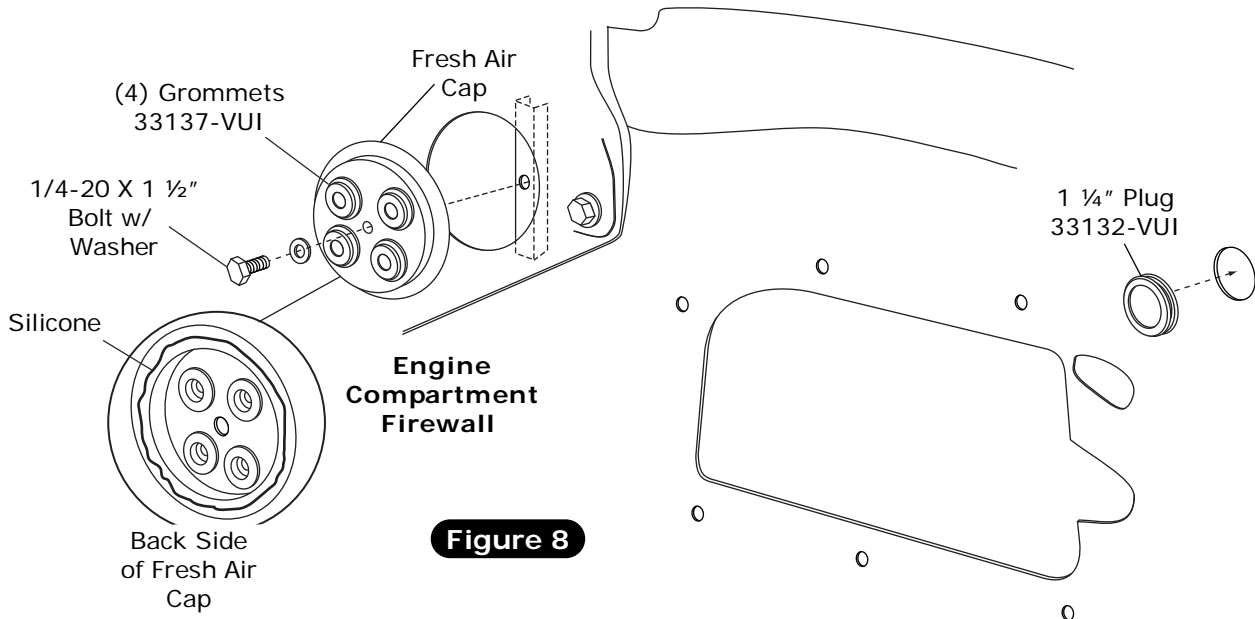

Figure 8
1. Install (4) grommets in fresh air cap (See Figure 8, below).
2. Apply a 1/4" bead of silicone around the back side of the fresh air cap as shown in Figure 8, below.
3. Attach fresh air cap to firewall using a 1/4-20 X 1 1/2" bolt and washer (See Figure 8, below). **NOTE: Fresh air cap installs on engine side of firewall.**
4. Install 1 1/4" plug in firewall (See Figure 8, below).